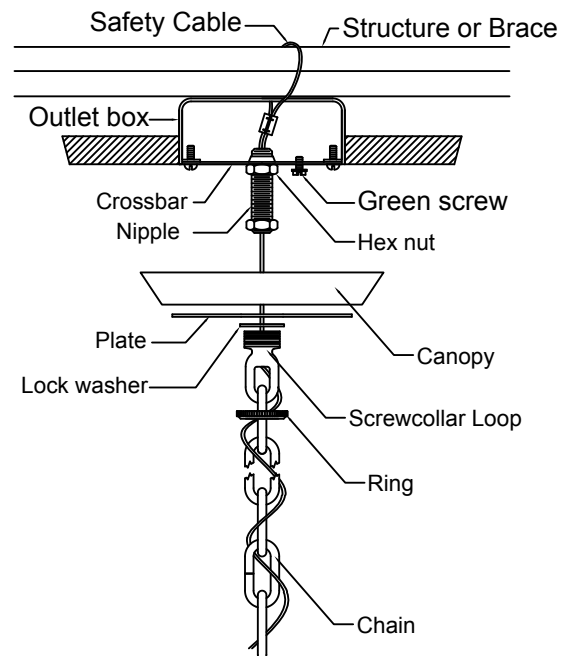

FIGURE-1
1. Attach the crossbar to the outlet box. (The green screw should face the floor). Attach the safety cable to the building structure or brace (See figure-1).